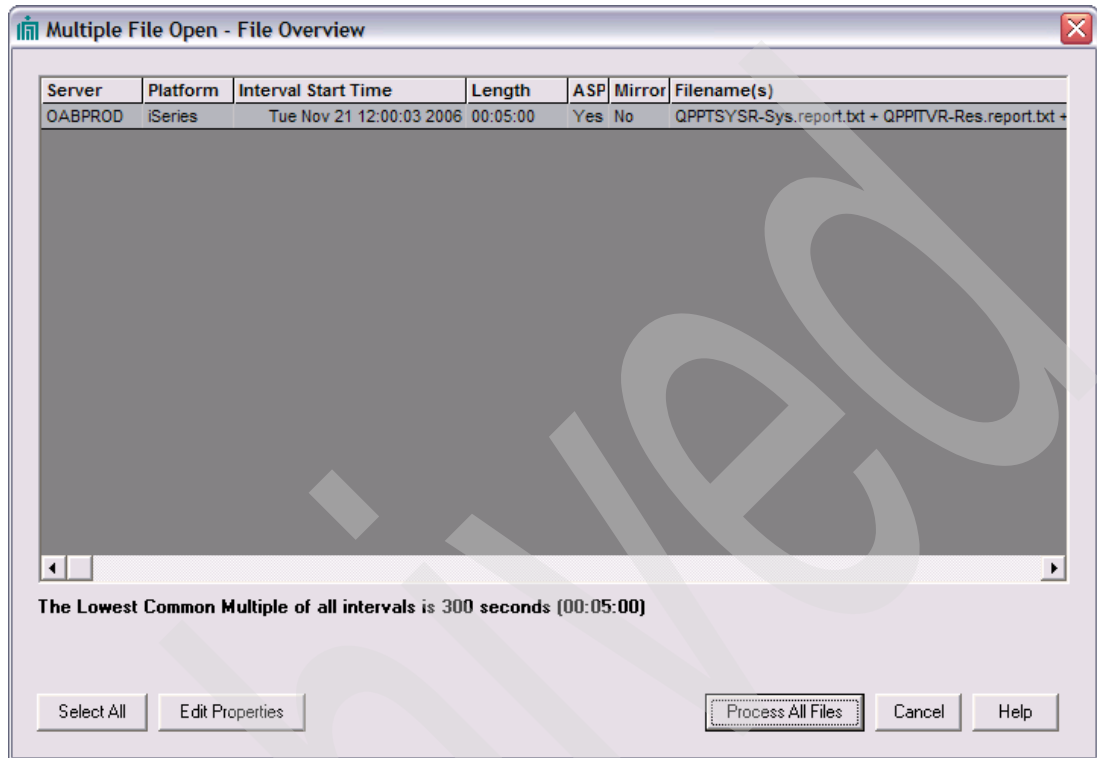

Figure 4-19 Disk Magic - File Overview dialog box
3. Disk Magic shows you an overview of the read performance files in the Multiple File Open - File Overview window as shown in Figure 4-19. By default Disk Magic accounts for different ASPs by treating them as separate I/O workloads allowing to model the external storage performance on an ASP level.
Otherwise, click **Process All Files** (in Figure 4-19) to continue.